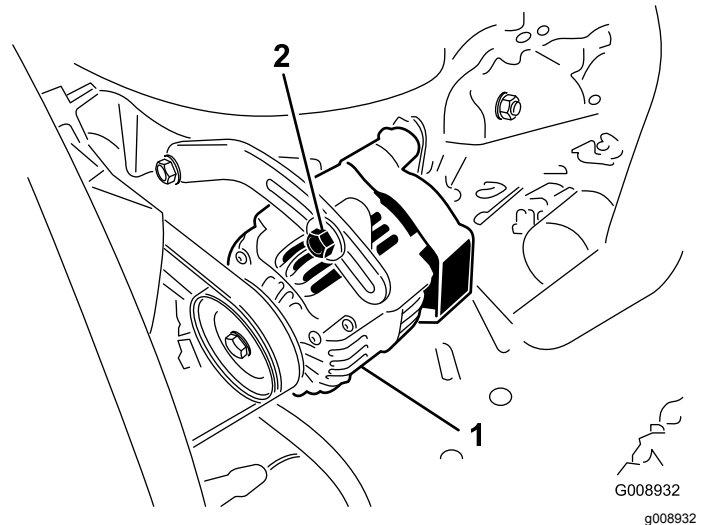

Figure 79
2. If the deflection is not 10 mm (3/8 inch), loosen the alternator mounting bolts (Figure 79).